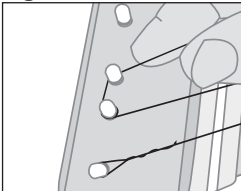

Figure 7
12. Run the string against the corresponding anchor post and make one loop. (Fig. 7)